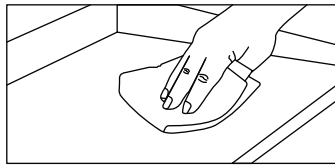

Fig. 7
STEP 02 Wipe down griddle top with paper towel. (See Fig. 7)